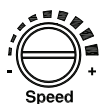

Figure 4
- a. A motor mounted potentiometer is mounted on the case of the motor to adjust the speed manually. See Figure 4. Turn the potentiometer using a screwdriver to adjust the speed.